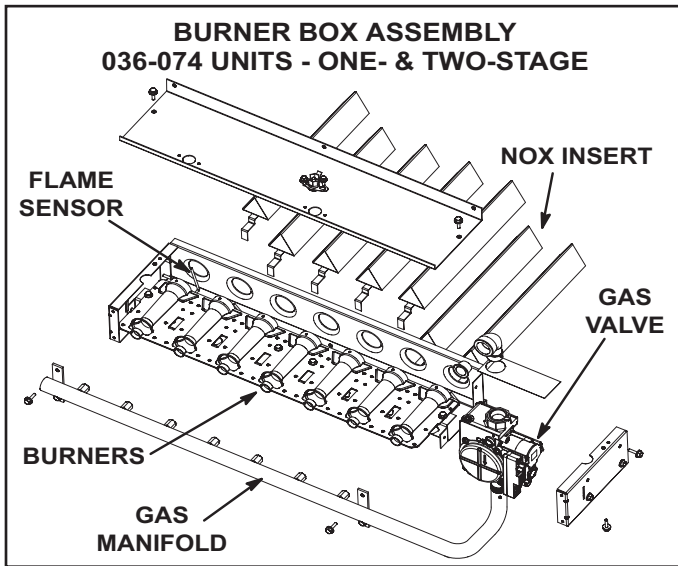

FIGURE 12
- 3 - Remove top burner box panel. See Figure 12,